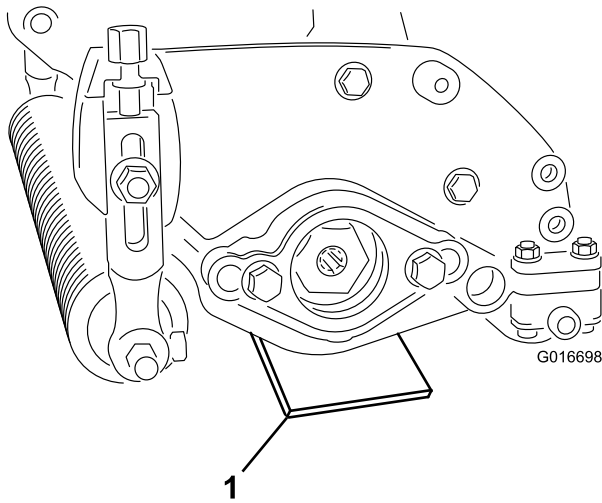

Figure 8
2. Place a gauge bar, which has the desired height of blade above ground, under each end of the dethatching unit (Figure 8).